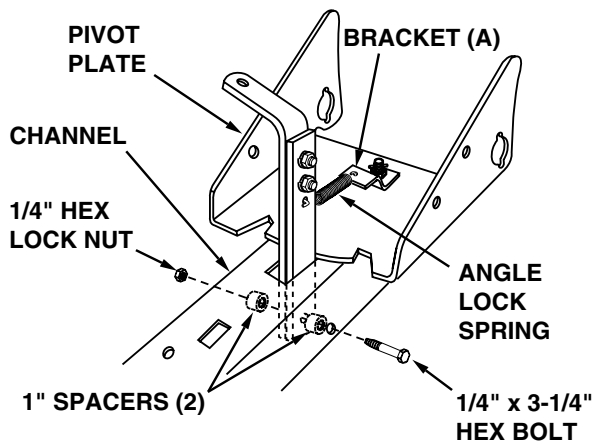

Figure 4
- Insert the curved hook of the angle lock spring **up** through the hole in bracket (A). See figure 4.
- Insert the angle lock bars down through the slot in the channel. Underneath the channel place spacers on both sides of the angle lock bars and insert a 1/4" x 3-1/4" hex bolt through the sides of the channel, the spacers and the angle lock bars. Secure the bolt with a 1/4" hex lock nut, tightening so that the angle lock bars still pivot freely. See figure 4.